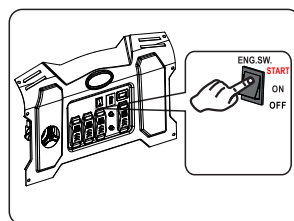

Fig 14 Electric Start
- For electric start, Push and hold the engine START/ON/OFF switch in the “START” position. Do not hold the START/ON/OFF switch in the “Start” position for more than 15 seconds. Allow 1 minute between starting attempts. (See fig14)